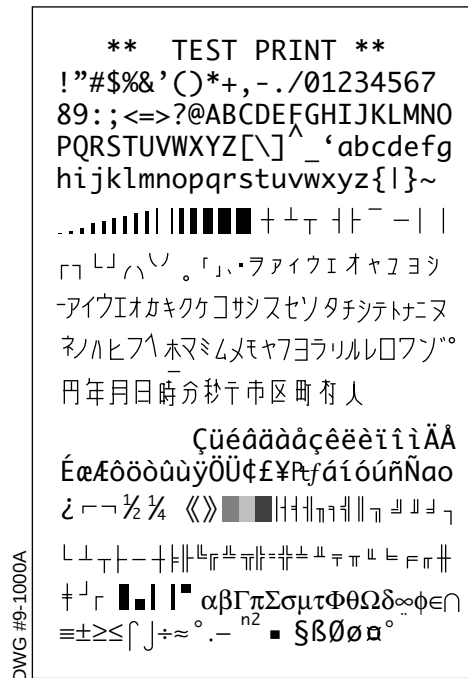

Figure 6.2 Sample Test Printout
- From the Home screen, press Menu (soft key); press Service (soft key); use the down arrow key to select Printer Menu; press ENTER; use the down arrow key to select Character Set Test; finally press ENTER to obtain a character printout to verify proper operation (see Figure 6.2).